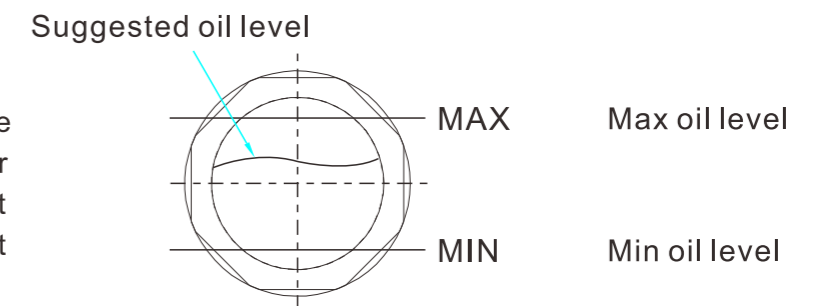

Fig.7
- (1) The oil level shall be always kept between position MAX and MIN of oil sight glass during operation (refer to Fig. 7). Add oil when the oil level is lower than position MIN and discharge oil by removing the oil drain plug (refer to Fig. 2) when the oil level is above position MAX.
- (2) Check the oil color. Replace the oil if the color is other than clear and transparent.